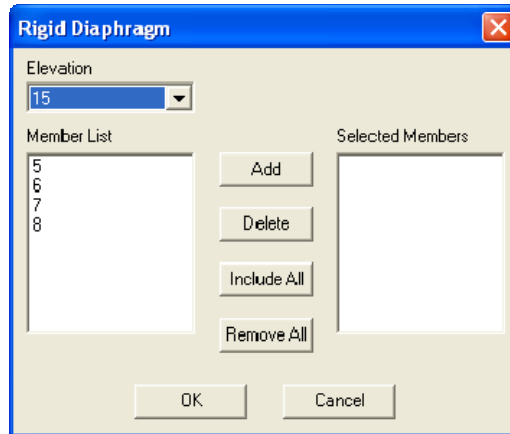

Figure 3-29 Rigid Diaphragm dialog box
- From the Process menu, select Rigid Diaphragms. The dialog box of Figure 3-29 appears. spFrame automatically sorts the already defined members and groups all horizontal members that have the same Y-coordinate into defined elevations. These elevations are shown in the ELEVATION drop-down list.